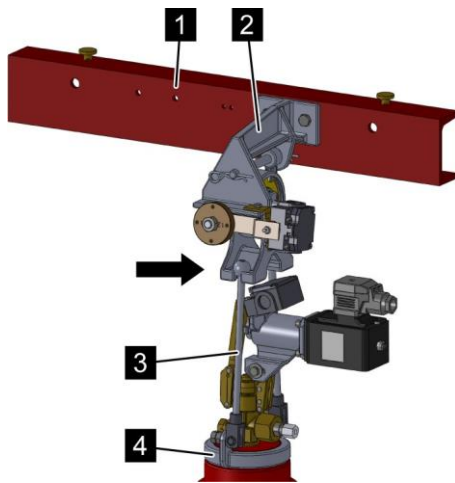

Fig. 71: Wall mounting
1. ➤ Screw the holder of the weighing device (Fig. 71/2) onto the U-profile (Fig. 71/1) with the M8 x 25 hex bolts.
2. ➤ Fasten the U-profile (Fig. 71/1) onto a bearing structural element.
11. ➔ Hook the pilot cylinder into the weighing device (Fig. 71/arrow) by means of the holding rods (Fig. 71/3).